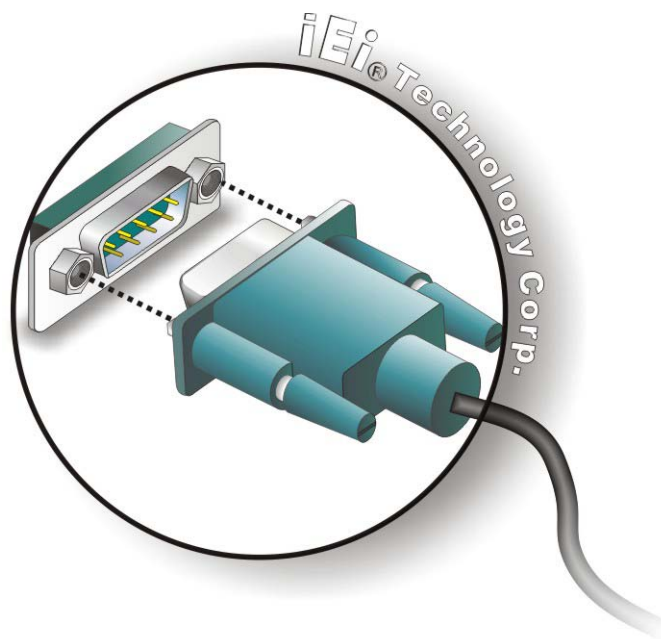

Figure 3-13: DB-9 Serial Port Connection
Step 2: **Insert the serial connector.** Insert the DB-9 connector of a serial device into the DB-9 connector on the bottom panel. See **Figure 3-13**.
- Step 3:** Connect the serial device. Connect a serial device to the DB-9 connector end of the cable. See **Figure 3-13**.